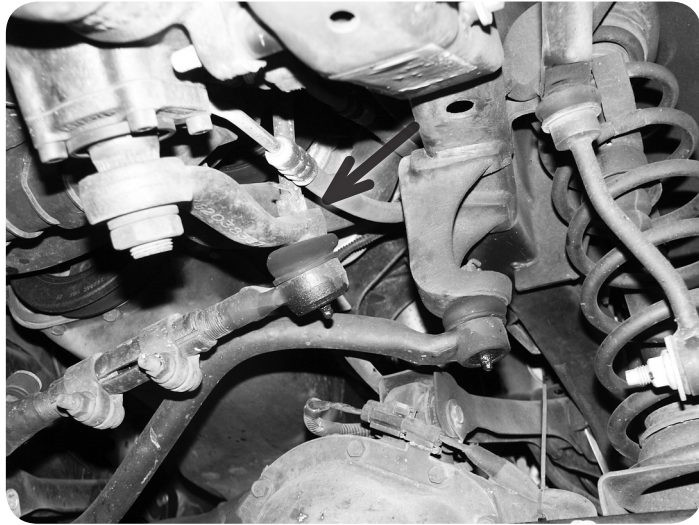

Figure 3
7. Remove the upper mounting nut from the sway bar links **Figure 3**. Swing the sway bar up off the links.
9. Remove the cotter pin and castellated nut from the drag link end at the pitman arm **Figure 3**. Thread the nut back on a couple of turns. Strike the pitman arm near the drag link end to release the tapered seat. Take care not to damage the end. Remove the nut and the drag link from the pitman arm. Save hardware.